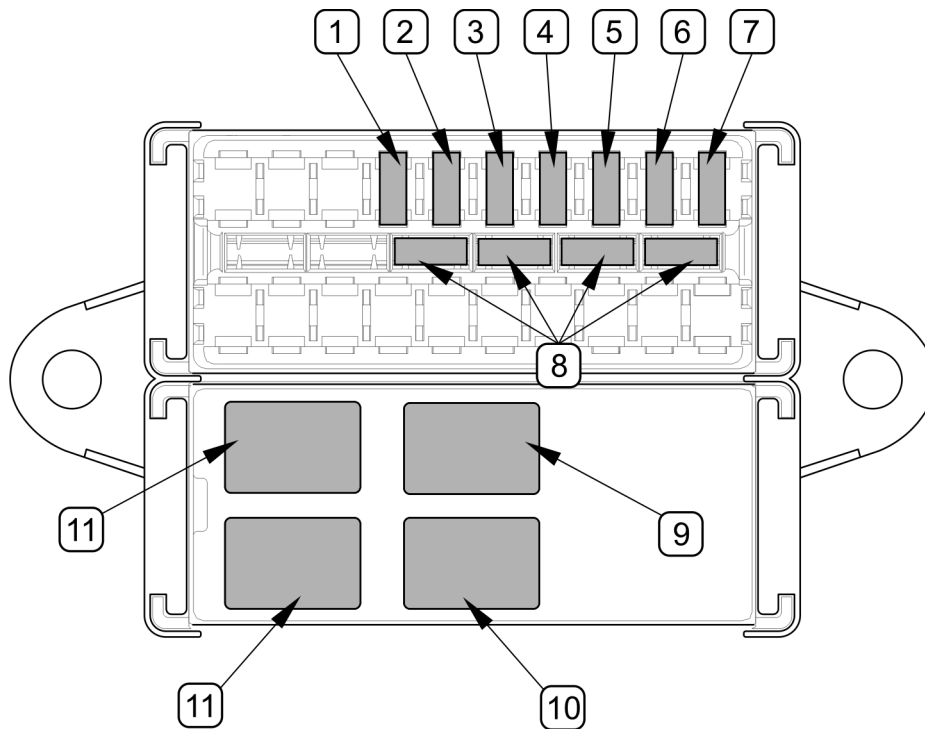

FIG. 5.3 Fuses and relays
In the fuse box, there are four relays (9), (10), (11) (FIG. 5.3) marked with 10/20A 24V symbol, with part number of K2-1103-0011, and MINIVAL fuses (see TAB. 5.2)